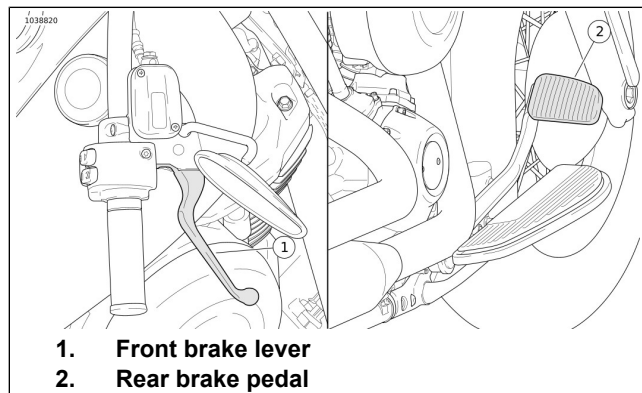

Figure 38. Brake Controls
See Figure 38. The front brake hand lever (1) controls the front wheel brake. The brake lever is located on the right handlebar. Operate the hand lever with the fingers of the right hand.
See Figure 38. The rear brake pedal (2) controls the rear wheel brake. The brake pedal is located on the right side. Operate the rear brake pedal with the right foot.